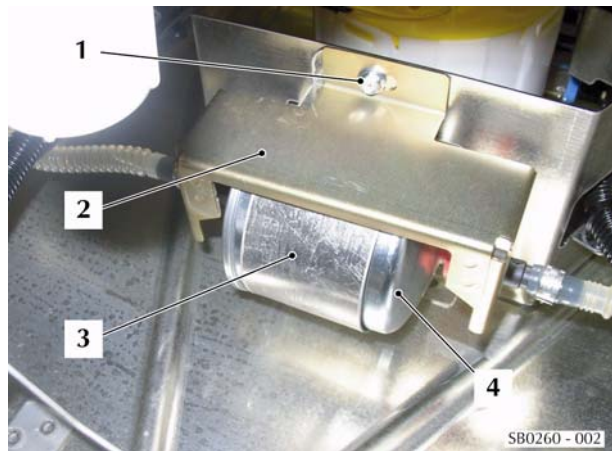

Figure 1 (Right Filter Shown)
2. Remove the M5 screw (item 1) that attaches the fuel filter brackets (items 2 and 3) of the filter for the applicable fuel pump (pump) side (refer to Figure 1).